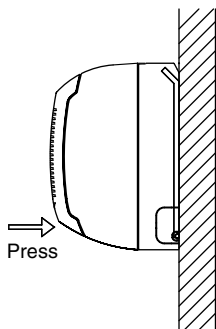

Fig. 3-27
2. Press on the air outlet to hold it in place, and press the lower part of the indoor unit until a "click" sound is heard and the indoor unit is securely fastened to the attachment tabs on the lower side of the rear panel. (Fig. 3-27)